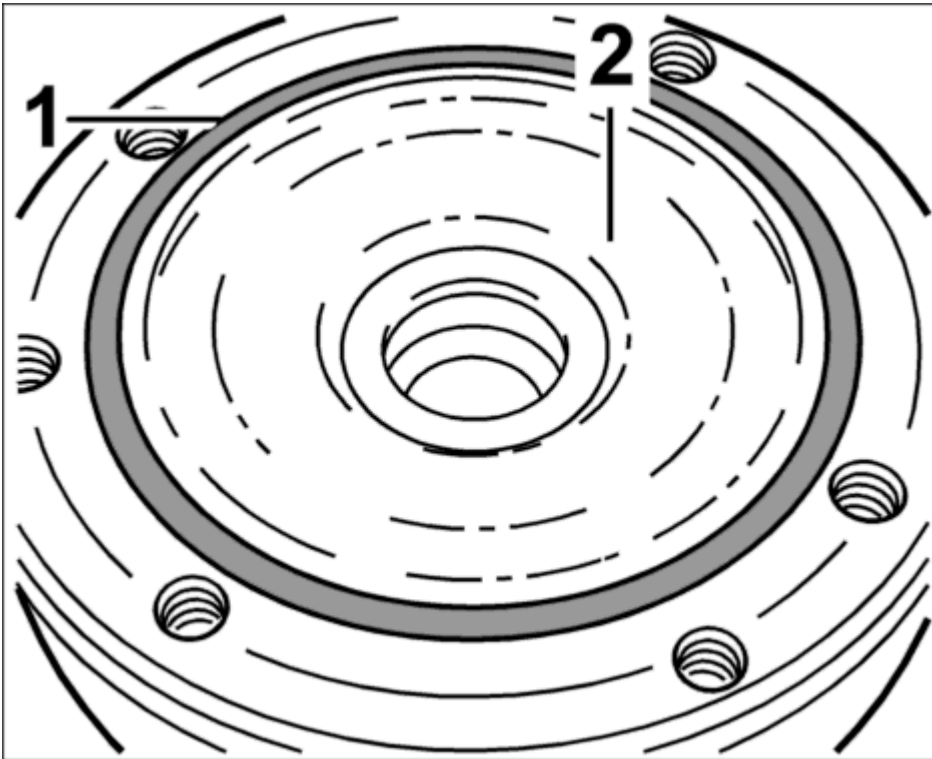

Fig. 29: Sealing ring
5. Clean the surfaces -2- on the mounting saddle and on the air spring with a lint-free cloth. Replace sealing ring -1- on the air spring. See **Fig. 29**.